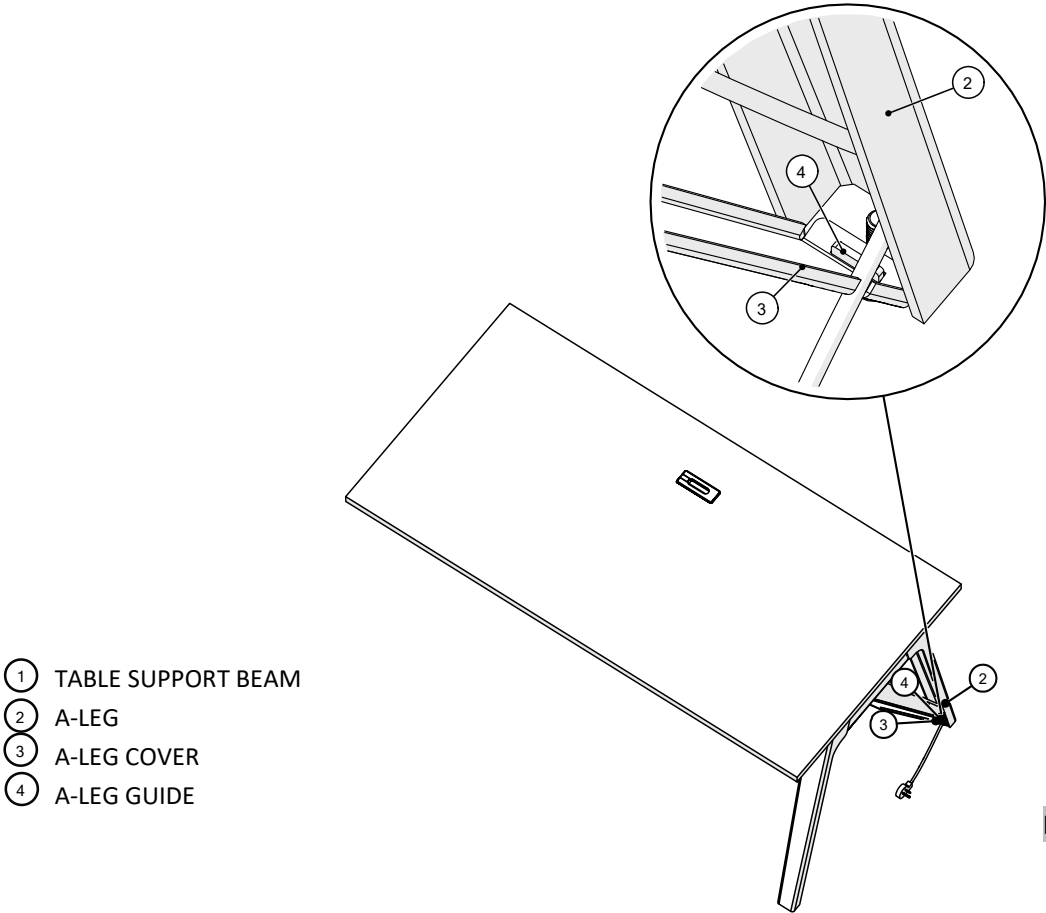

Figure 2
2. Insert the A-leg guide into the slotted hole of A-leg cover, (Figure 2).